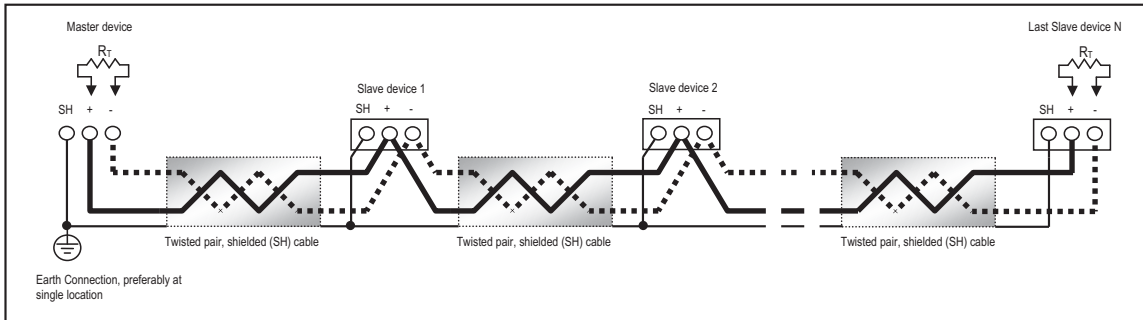

Figure 5.4: RS485 Daisy Chain Connection
- Connect shield to RS485 Master and individual devices as shown in Figure 5.4. You may also connect the shield to earth-ground at one point.
- Termination Resistors (RT) may be needed on both ends for longer length transmission lines. When they are used, the value of the Termination Resistors is determined by the electrical parameters of the cable.
Figure 5.4 shows a representation of an RS485 Daisy Chain connection. Refer to Section 5.2.1.1 for details on RS485 connection for the Unicom 2500.